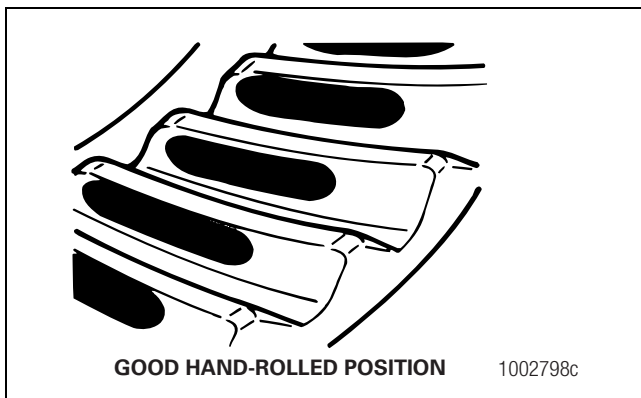
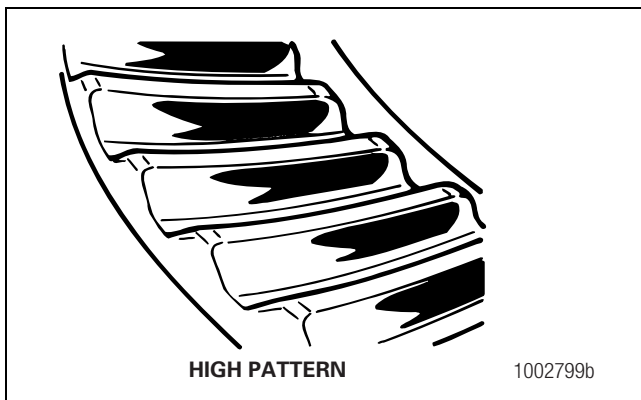

Figure 5.51
Figure 5.52
4. Look at the contact patterns on the ring gear teeth. Compare the patterns to Figure 5.51, Figure 5.52 and Figure 5.53.